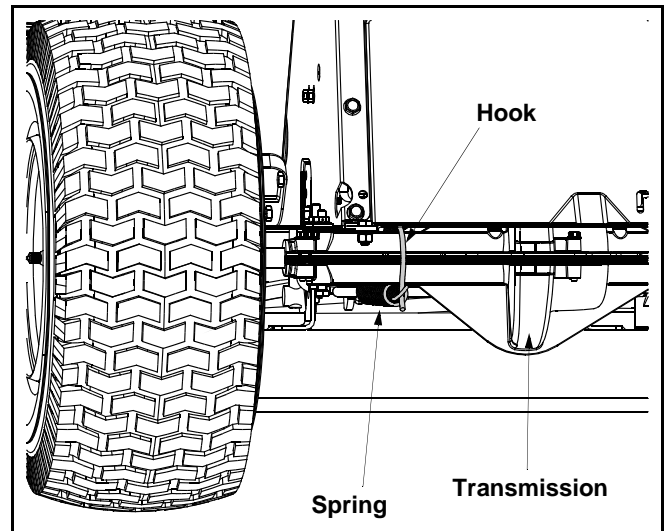

Figure 24
- Using a spring puller (MTD Part No. 732-0571) or other suitable tool, disconnect the spring which is attached to a small hook found on the left, rear portion of the transmission. See Figure 24.
- Using a spring puller (MTD Part No. 732-0571) or other suitable tool, disconnect the spring which is attached to a small hook found on the left, rear portion of the transmission (Refer to Figure 24) and the two springs which are attached to the rear portion of the tractor frame. See to Figure 32.